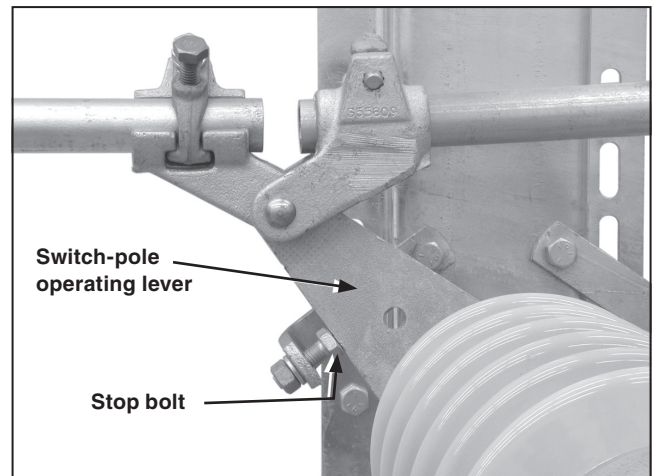

Figure 28. Verifying the switch-pole operating lever is within $\frac{1}{16}$ -inch (2 mm) of the closed stop bolt.
- (b) Each switch-pole operating lever should lie against its closed stop. See Figure 28.